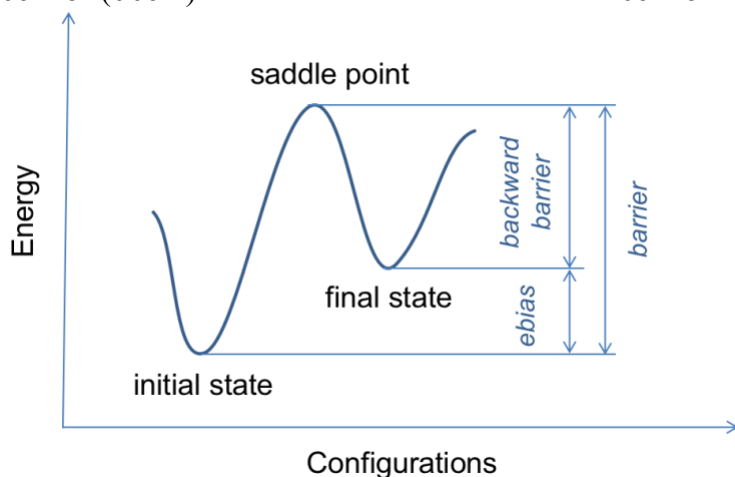

Figure 3.9. A schematic view of a saddle point (SP) between the initial and final states
A saddle point (SP) lays between the initial and final states as illustrated in Figure 3.9, where the **barrier** (*barr*) is the energy difference between the SP and initial state, and **ebias** is the energy difference between final and initial states. As a result, the **backward barrier** (*bbarr*) from final state to initial state is **barrier** - **ebias**.